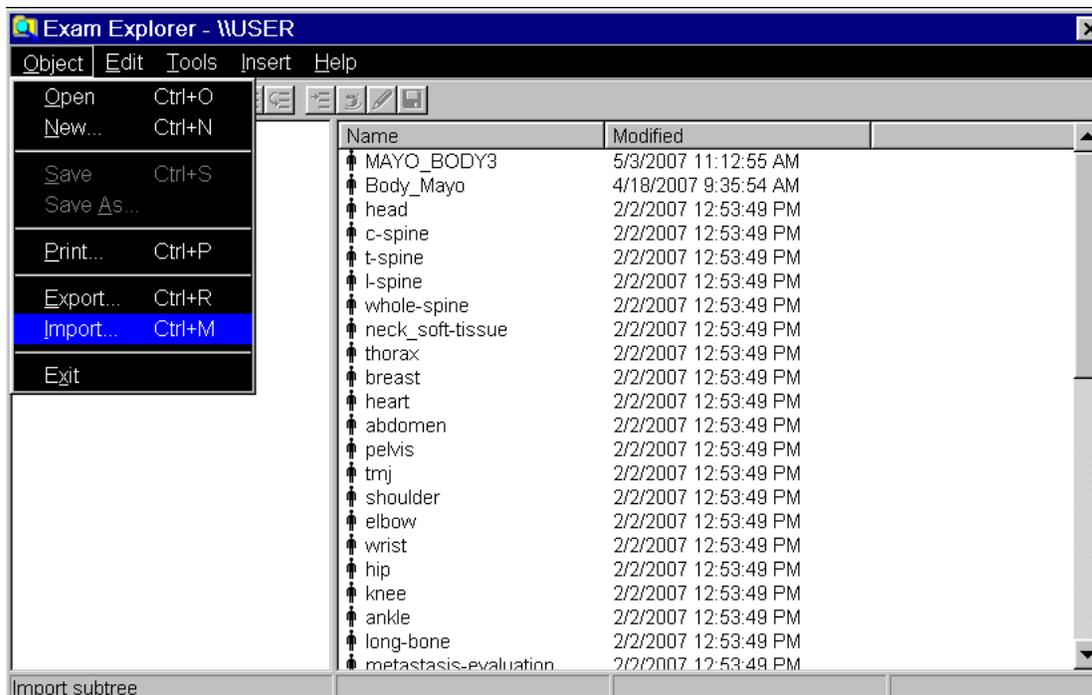
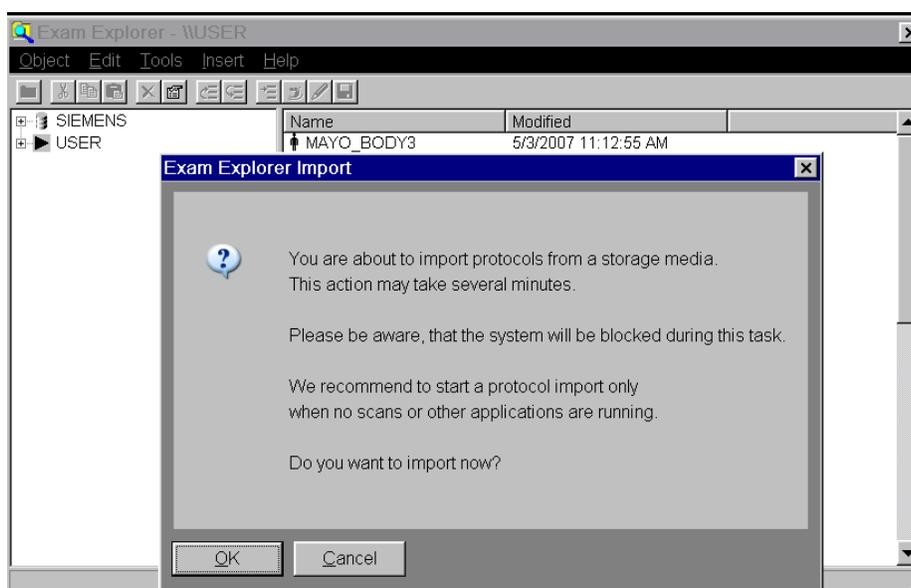

Figure 6: Siemens: Select Import.
Figure 7: Siemens: Message on selecting import.
5. Go to the Object Menu and choose Import, Figure 6. You will be warned that this will take some time, Figure 7, but it is relatively quick.